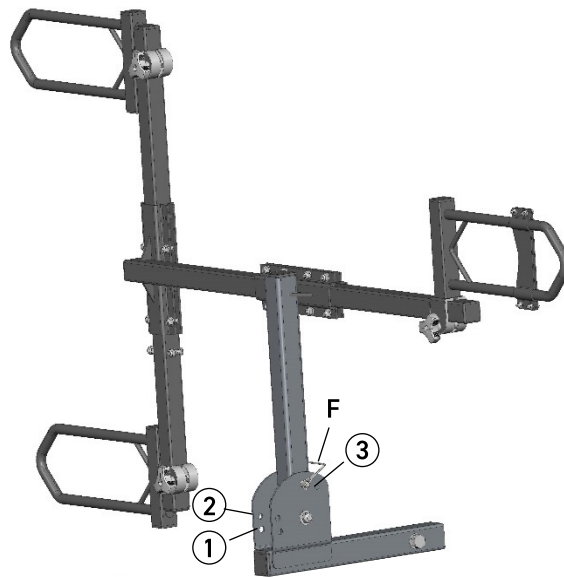

Fig. 16
- ONLY OPERATE VEHICLE WITH RACK IN VERTICAL POSITION 3 (PAGE 7, FIG.16) OR IN THE IN-USE POSITION, (PAGE 7, FIG.18)